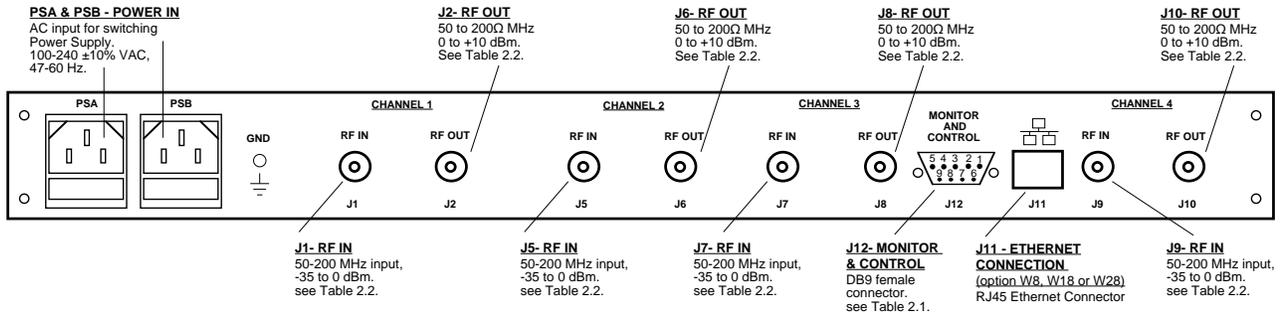

FIGURE 2.2 2412-x08 Rear Panel I/Os
Figure 2.2 shows the input and output connectors on the rear panel.
2. Connect 100-240 \pm 10% VAC, 47 - 63 Hz to the AC input. (Dual, redundant AC inputs, if redundant power, Option R) on the back panel (Figure 2.2).
4. Connect a -35 to 0 dBm, 50-200 MHz signal to INPUTS, J1, J5, J7 and J9. (Figure 2.2).
5. Connect OUTPUTS J2, J6, J8 and J10 (Figure 2.2) to the desired equipment.
6. Select Automatic Gain Control (AGC) or Manual Gain Control (MGC) using switches S2 and S3 for each of the individual channels. (Figure 2.2).
7. If in AGC mode, select the Gain for each of the individual channels using the Front Panel Switches, S2/S3. (May also be set via Remote interface.) (Figure 2.2).
8. If in MGC mode, adjust output to desired output level for each of the individual channels using the Front Panel Switches, S2/S3. (May also be set via Remote interface.) (Figure 2.2).